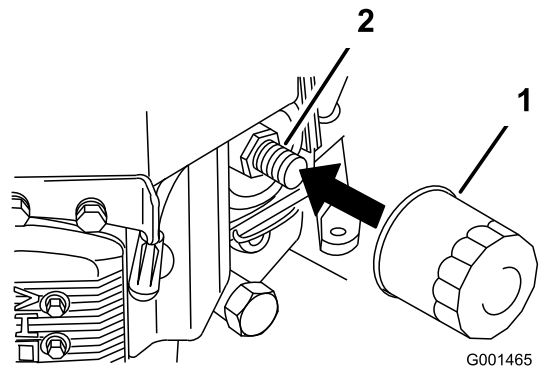

Figure 38
2. Remove the old filter (Figure 38).
3. Apply a thin coat of new oil to the rubber gasket on the replacement filter (Figure 38).
4. Install the replacement oil filter to the filter adapter, turn the oil filter clockwise until the rubber gasket contacts the filter adapter, then tighten the filter an additional 3/4 turn (Figure 38).